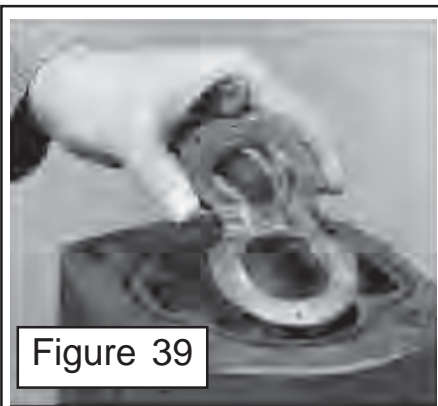

Figure 39
14. Gently slip the thrust plate (figure 10 item 7 & 8) through the gear housing and into place on the shaft end cover (figure 39). The channel seal from step 13 should face the shaft end cover. The relief groove in the thrust plate should face the outlet side of the pump (see figure 23A).